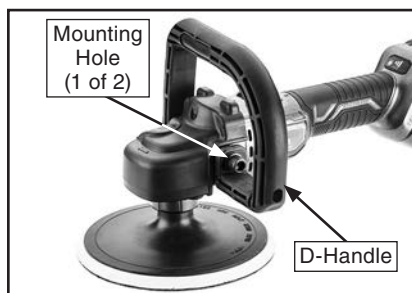

Figure 9. D-handle installed on T33306.
1. Attach D-handle to tool with (2) M8-1.25 x 25 cap screws and (2) 8mm flat washers (see **Figure 9**).